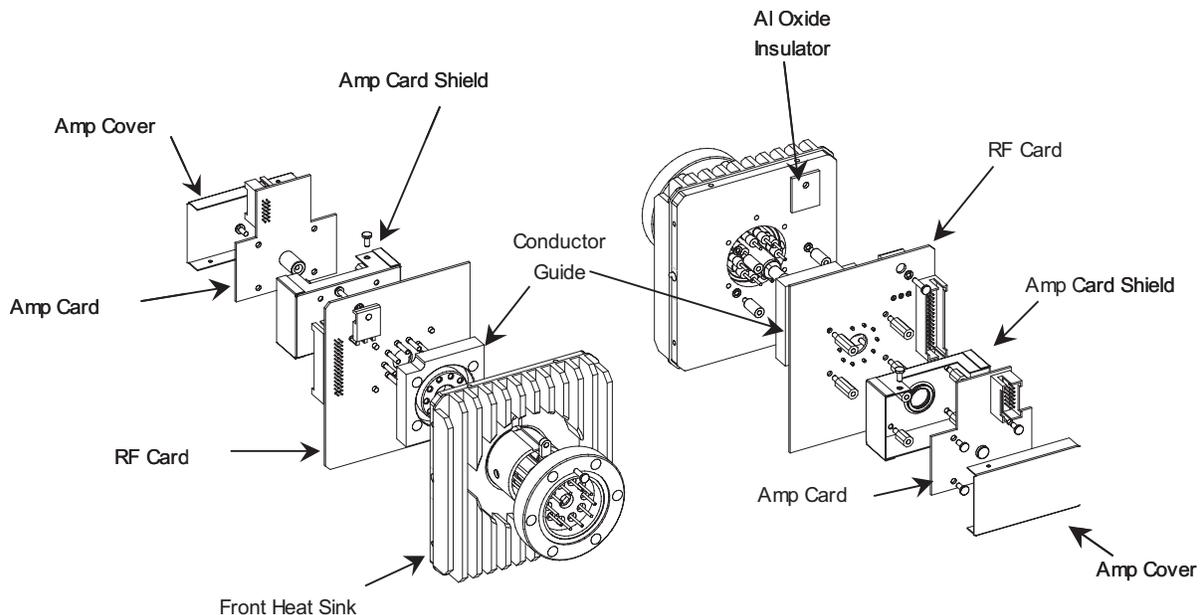

Figure 5-5.
The Amp Card is part of the RF assembly at the rear of the unit. It is located under the Amp cover. See Figure 5-5.
1. There are eight screws holding the RF assembly in the unit casing. Remove the (2) top 1/4" and (2) bottom 1/4" screws.
2. Remove the (2) 3/16" screws from each side.
4. You now have the complete RF assembly in your hand. Refer to Figure 5-5.
6. Remove the Amp card by removing the (4) 1/4" screws holding it to the Amp card shield.
The RF card is located directly behind the rear heat sink and separated from it by the conductor guide. See Figure 5-5.
1. There are eight screws holding the RF assembly in the unit casing. Remove the (2) 1/4" and (2) bottom 1/4" screws.
6. Remove the (4) 1/4" screws holding the Amp Card to the Amp card shield.
7. Using the 1/4" nut driver remove the (4) 3/8" standoffs from the Amp card shield. You can now see the RF card.